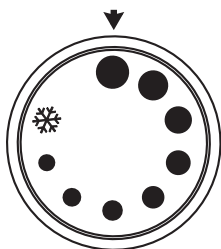

Figure 3
1. Turn the Thermostat Control knob (5) clockwise as far as possible (Figure 3).
2. When the room is heated to a suitable temperature, turn the control knob (5) anti-clockwise slowly until the indicator lamp (4) goes out.